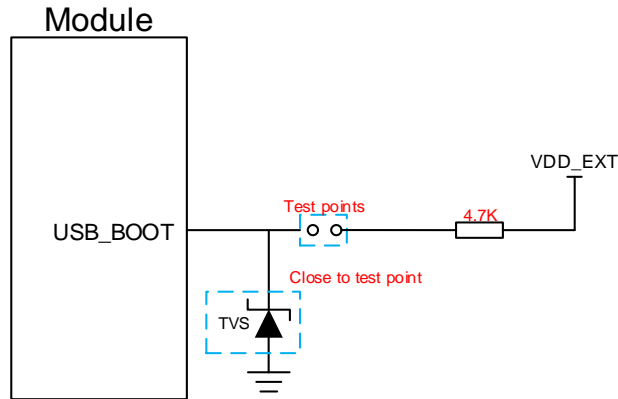

Figure 30: Reference Circuit of USB_BOOT Interface
2. When using MCU to control module to enter the emergency download mode, please follow the above timing sequence. It is not recommended to pull up USB_BOOT to 1.8 V before powering up VBAT. Connect the test points as shown in **Figure 30** can manually force the module to enter download mode.